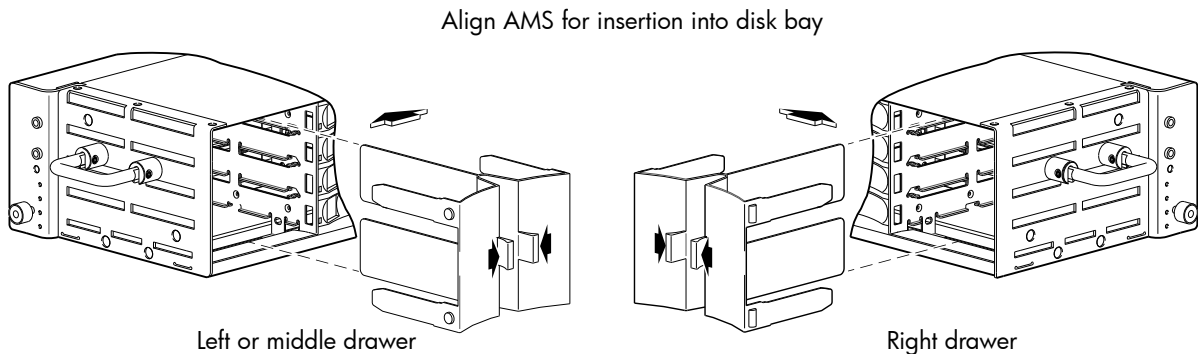
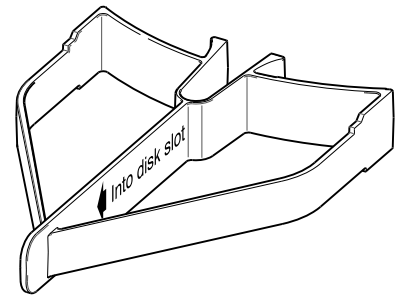
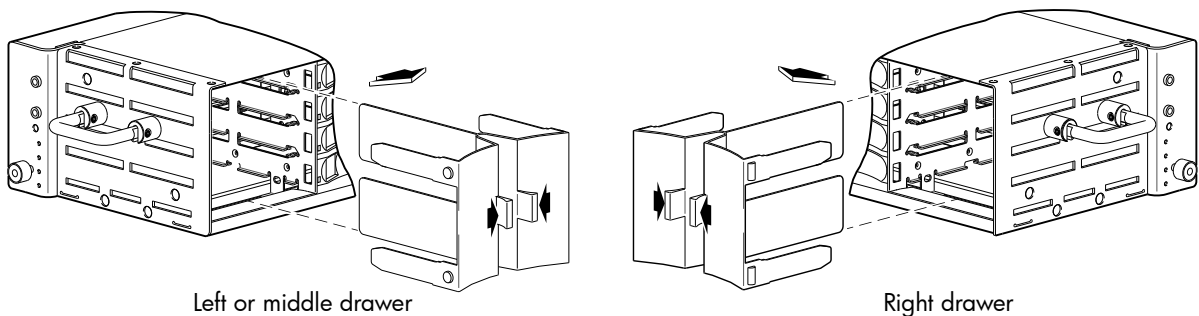

Figure 28 Orient the AMS for installation (2U48)
Figure 30 AMS insert for a single disk slot (2U48)
Figure 31 Remove the AMS from the disk bay (2U48)
**IMPORTANT:** Each disk bay must be populated with either a full complement of disk drive modules, a disk bay AMS insert (shown above), or a combination of disks and single disk slot AMS inserts (see Figure 30 on page 43). Empty disk slots are disallowed.
An air management solution (AMS) insert—also known as a *blank*—is a plastic insert that is used in lieu of the four disk drive modules within a disk drive bay, or within an individual disk drive slot. Both the disk bay AMS (see Figure 28) and the single disk drive slot AMS (see Figure 30 on page 43) are used to maintain optimal air flow for proper cooling within the enclosure.
Refer to Figure 28 when orienting the AMS for insertion into the target drawer. If you are installing into the left or middle drawer, refer to the illustrations on the left when performing this step-procedure. If you are installing into the right drawer, refer to the illustrations on the right when performing this step-procedure.
If using the new single disk slot AMS insert shown in Figure 30, the insertion steps are essentially the same as those described for Figure 28 on page 42 and Figure 29 above; however, they pertain to a single disk slot rather than a disk bay (four vertically-contiguous disk slots).
IMPORTANT: Each disk bay must be populated with either a full complement of four disk drive modules, a disk bay AMS (shown above), or a combination of disks and single disk slot AMS inserts (See Figure 30). Empty disk slots are disallowed.
2. Pull the AMS insert straight out of the disk bay as show in Figure 31.
If using the new single disk slot AMS insert shown in Figure 30 on page 43, the insertion steps are essentially the same as those described for Figure 31 on page 43; however, they pertain to a single disk slot rather than a disk bay (four vertically-contiguous disk slots).